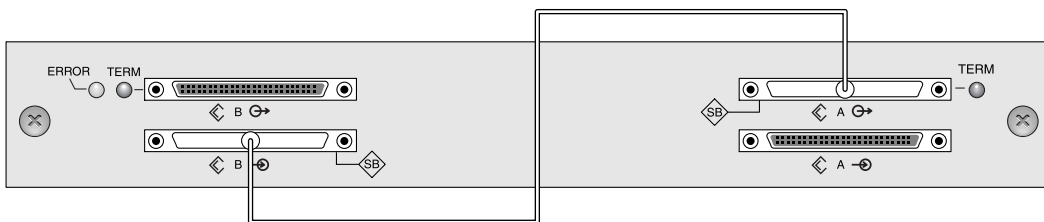

FIGURE 4-10 Required Jumper Cabling for a Single-Bus Expansion Unit
2. To configure an expansion unit as a single-bus configuration, connect the SCSI jumper cable between SCSI ports (lower left and upper right ports), as shown in FIGURE 4-10. Tighten the cable jack screws with six full clockwise turns to ensure proper connection and operation.